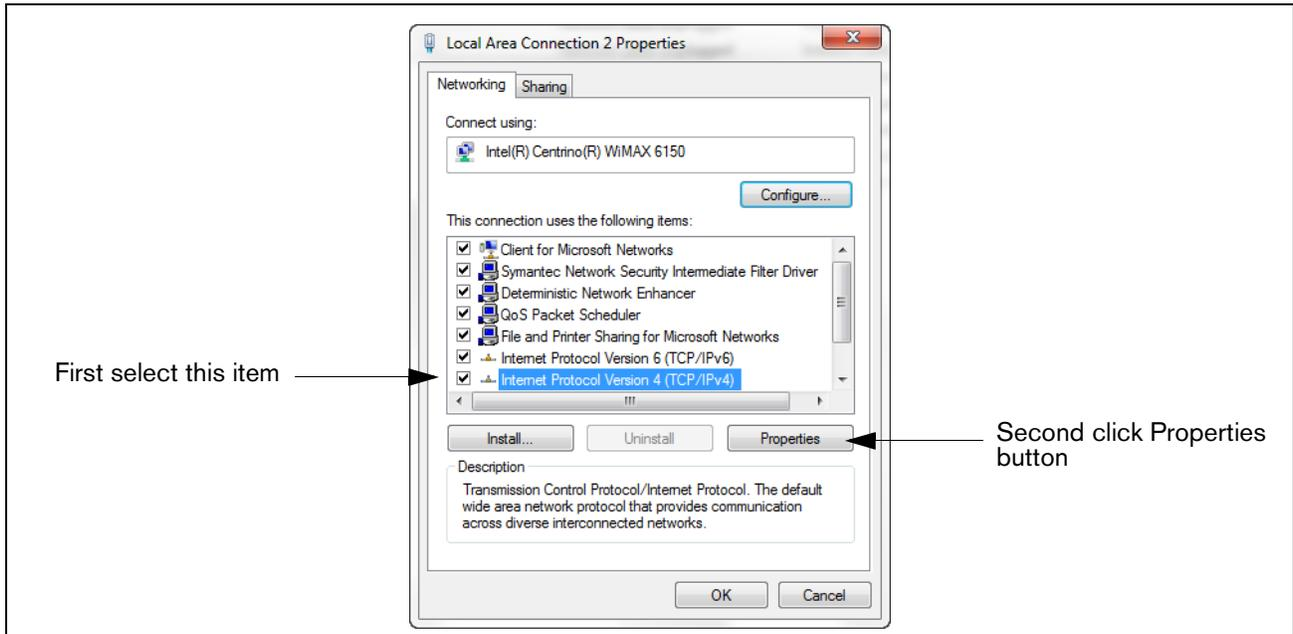

Figure B-2. Local Area Connection 'X' Properties dialog box selections
- 4. When the selected Local Area Connection Properties dialog box opens make the selection shown in Figure B-2.